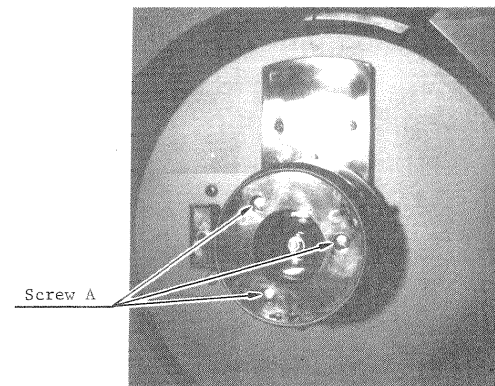
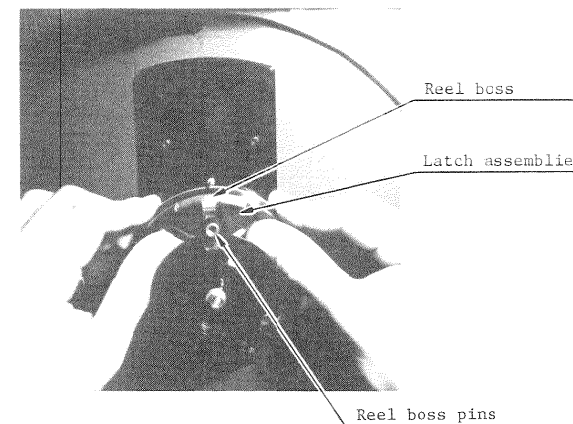

Fig. 1 (Cover is removed)
Fig. 2 (Cam assembly is removed)
2. Insert the cam alignment spacer between the cover assembly and the cam. Fig. 1, page L0210-2
3. Loosen the screws (A), and remove the rear cover.
4. Remove the screw (B), and remove the clamping.
5. While pressing the cover assembly, loosen the screws (C), remove the cover assembly, and pull out the cam assembly. Fig. 2, page L0210-2
1. Set the cam return spring on the cam assembly, and insert the cam shaft through the bushing and clamping (Fig. 1, Fig. 2).
2. Align the three bosses of the cover assembly with the notches of the cam and the reel boss pins, and while pressing the cover assembly, fasten the screws (C).
4. Push the clamping till the clamping hits the bushing, secure the clamping by fastening the screw (B).
5. Place the rear cover, and secure it with the screws (A).